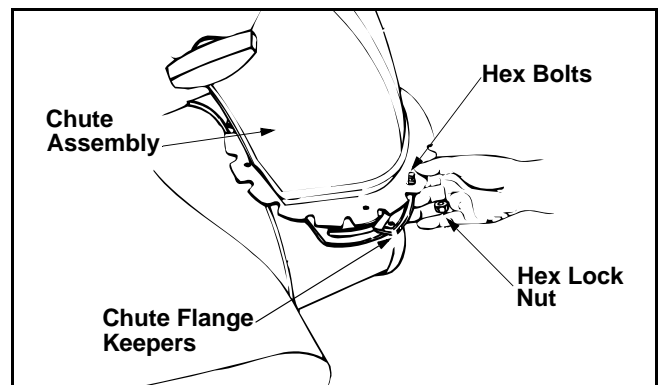

Figure 3
- Place chute flange keepers beneath lip of chute assembly with the flat side down. Insert hex bolt up through chute flange keeper and chute assembly. Secure with hex lock nut. See Figure 3.